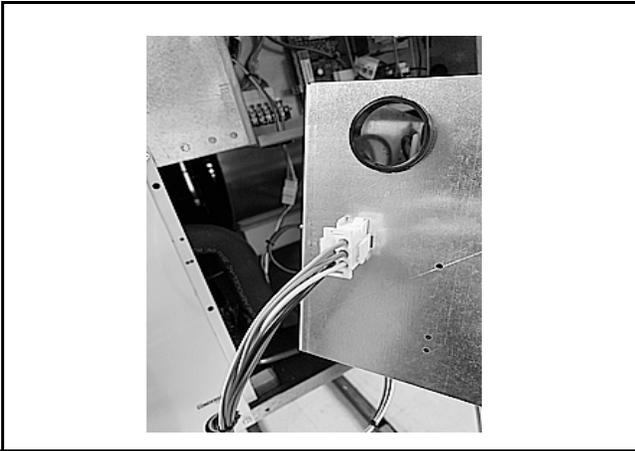

Fig. 24 J39 Connection
4. Connect the male end of Electric Heat Wiring Harness to the J39 Connector on the side of the Electric Control Box. (See Fig. 24.)